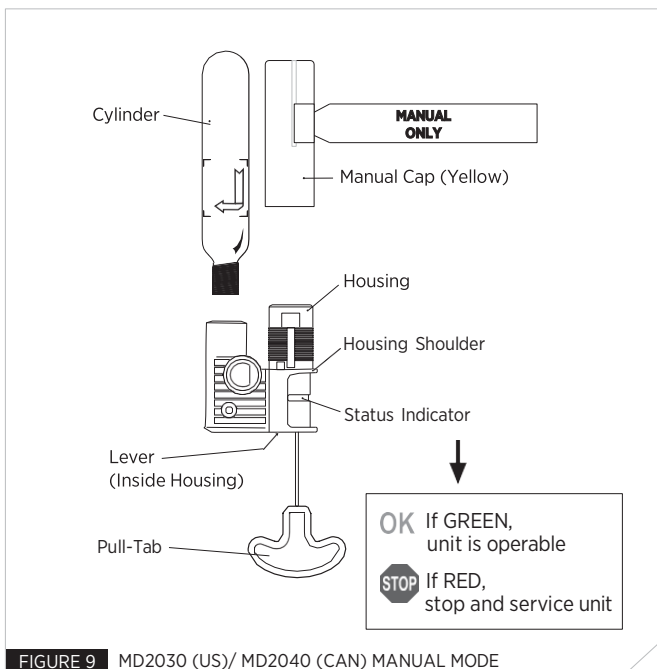

FIGURE 9 MD2030 (US)/ MD2040 (CAN) MANUAL MODE
1. Unpack or open the flotation device to expose the inflator (Fig. 9).
5. Examine the status indicator (Fig. 9) and ensure it is GREEN. If the status indicator is red, the mechanism has been fired or is incorrectly fitted and the inflator requires service.